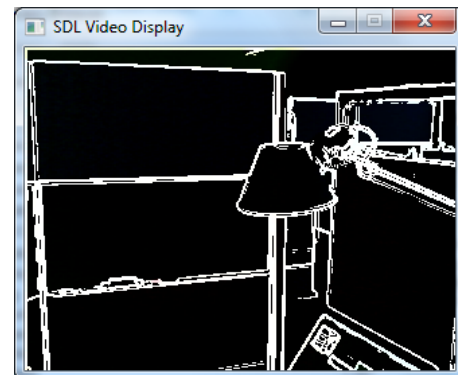

Figure 37: Live Edge Detection on Raspberry Pi
6. Double click the Threshold block. Tune its value to determine proper edge detection on the video sequence (**Figure 37**).